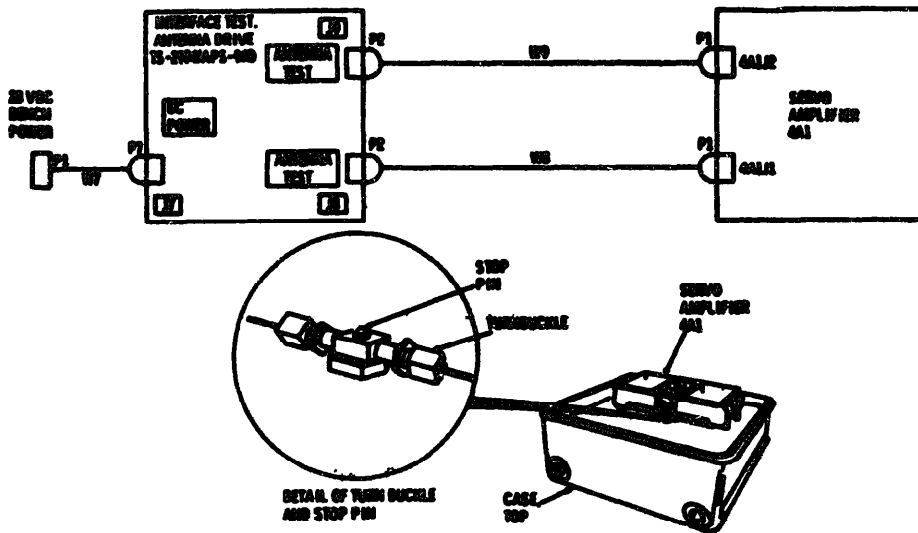

Figure 7-5. Amplifier 4A1, test setup.
- (1) Perform the performance check (para 7-5).
- (2) Place servo assembly on mounting posts in top of case as shown in figure 7-5. Engage stop pin in hole in turnbuckle.
- (3) Connect test cables W8 and W9 to servo amplifier as shown in figure 7-5.